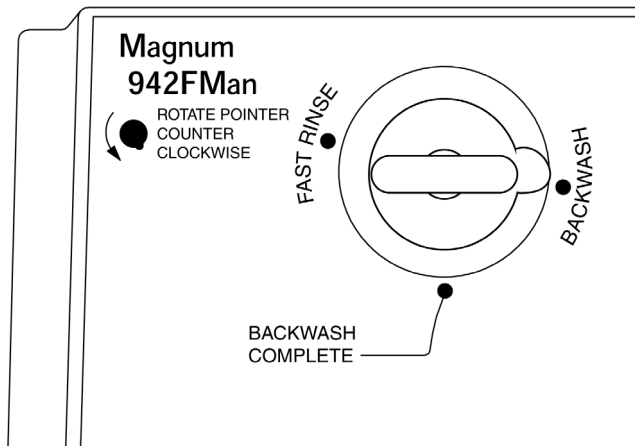

Figure 5.6
1. Move the indicator knob COUNTERCLOCKWISE from the **Backwash Complete** position to the center of the **Backwash** (Figure 5.6) position. DO NOT turn the knob clockwise. The knob should remain in the **Backwash** position for 5 to 20 minutes*, or until the water runs clear at the drain.